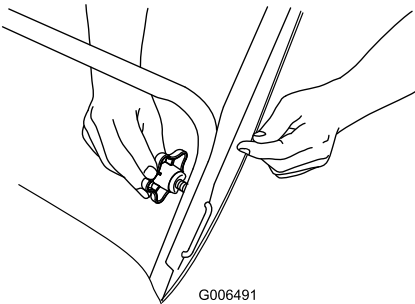

Figure 5
1. “U”-shaped handle lock (2) 2. Handle knobs
2. Insert the end of the “U”-shaped handle lock into the open hole in the handle and tighten the handle knobs until they are snug (Figure 5).